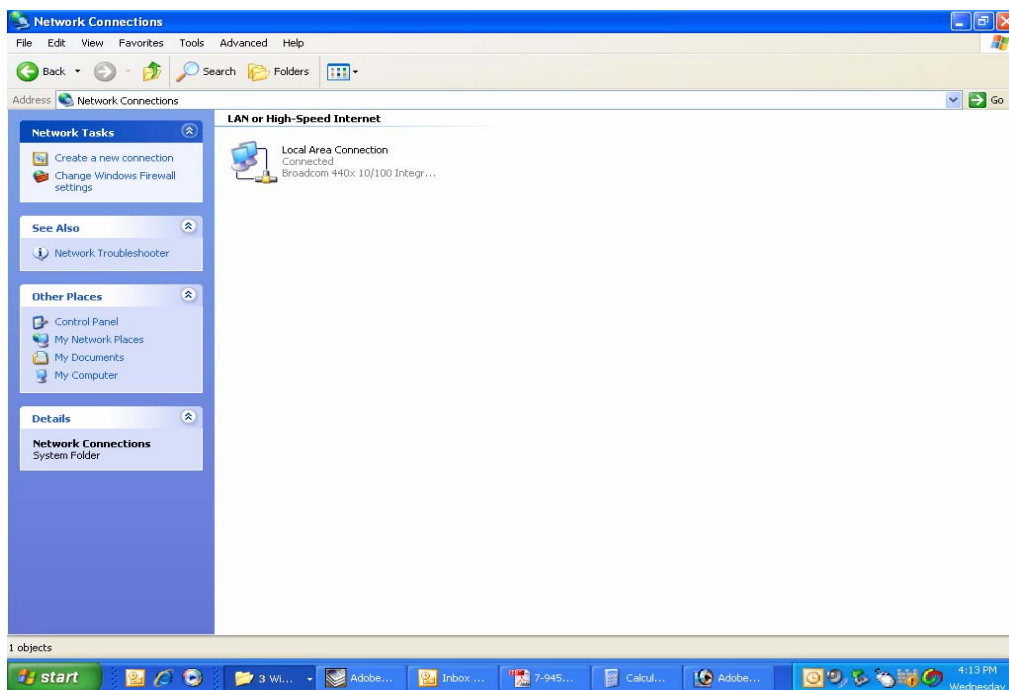

Figure B3: Select the “Local Area Connection” icon.
- 4) When the "Network Connections" folder opens double click on the "Local Area Connection" icon. See **Figure B3**.